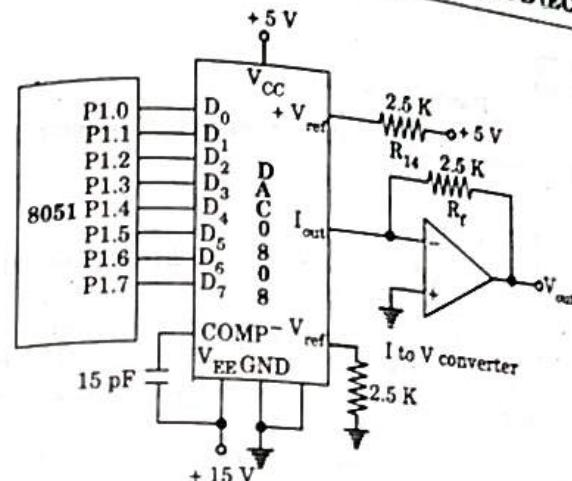

Fig. 5.25.1.
1. The Fig. 5.25.1 shows the block schematic of DAC 0808 interfaced to 8051 at port P1.